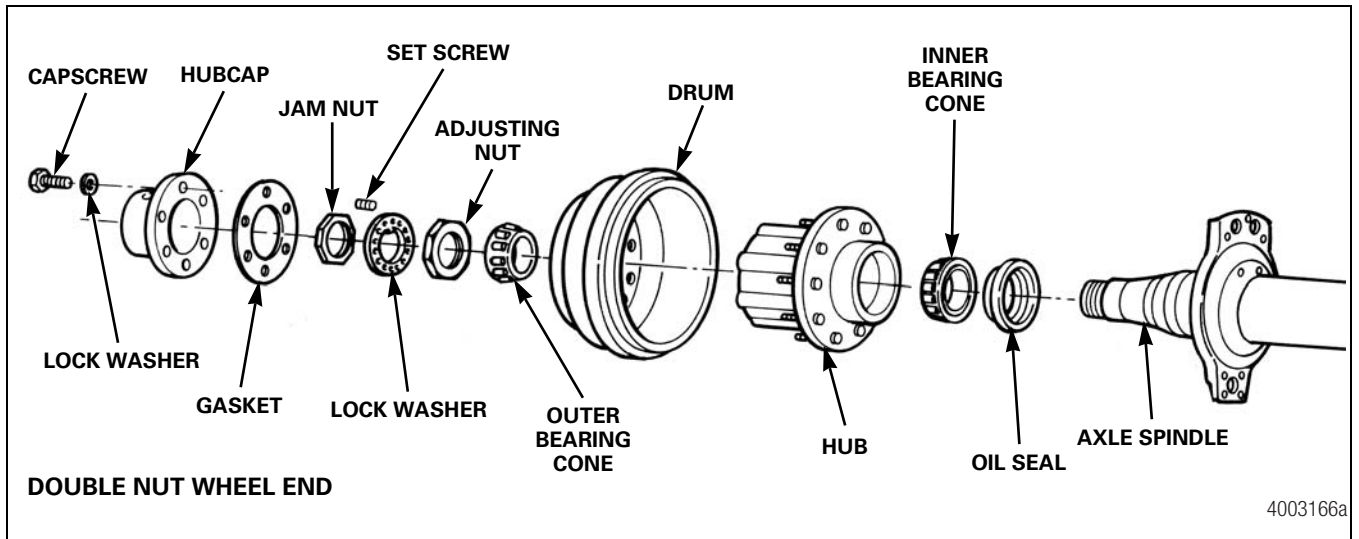

Figure 3.7
9. Remove the set screw from the lock washer. Then remove the jam nut, lock washer and adjusting nut. Figure 3.7.
11. Remove the inner bearing cone and seal from either the spindle or hub. Discard the seal. Figure 3.7.